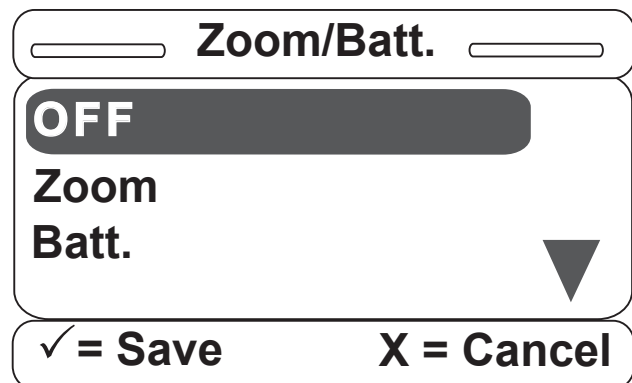

Figure S-6
- Once the Zoom/Batt. option is selected, Figure S-6 will be displayed. You can set this option to OFF, Zoom or Battery Backup. Scroll up or down to select one of the three available items and hit "Enter" on the footboard panel.